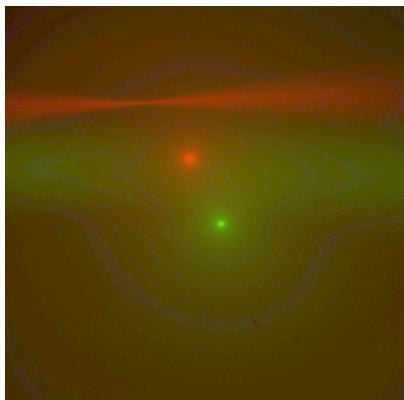
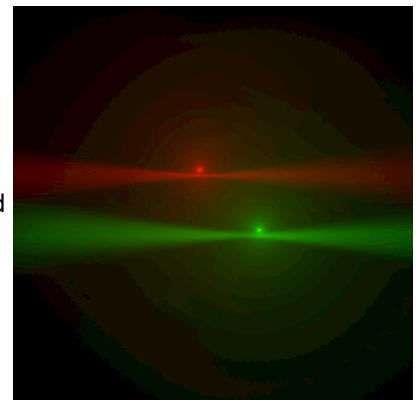

Figure 24: Multi camera, live mode: both beams and epi-spots, still largely unfocused and malaligned
Figure 25: Multi camera, live mode: as alignment improves, each beam waist nears the epi-spot
**The goal** is to have both beams in focus (roughly at first, as in Figure 24, but better and better in subsequent iterations of Phase 1, as in Figure 25).